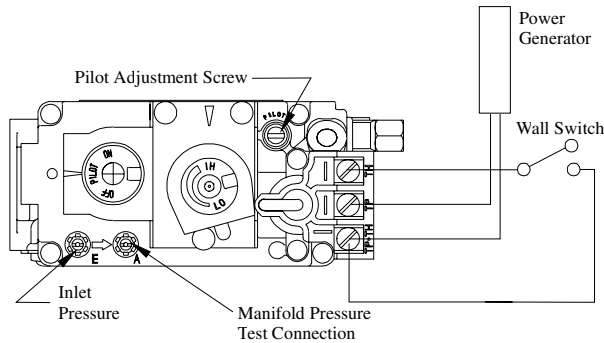

Figure 26. Sit Nova 820 gas valve.
- Have the fireplace installation inspected yearly, including a visual check of the vent system, the burner and the pilot flame. For your convenience a 1/8" manifold pressure tap is supplied on the gas valve for a test gauge connection. See Figure 26.
1. Locate Pilot Adjustment Screw. (See figure 26.)
Pilot won't ignite	Disconnect remote wires and try to light pilot. If pilot now works, remote connections are faulty. Check wiring diagram figure 26.
Main burner will not light	1. Check wiring (see figure 26). 2. Check wall switch for proper connection.